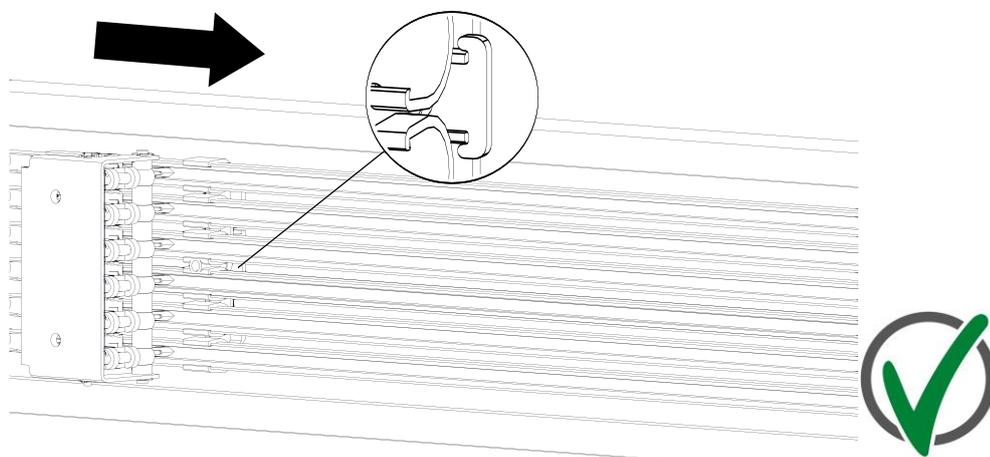

Fig. 48: Insert is mounted in the travel direction of the current collector
**For systems that are operated in towing mode, Conductix-Wampller recommends mounting the insert (1) in the preferred direction of travel of the current collector (see Fig. 48)!**